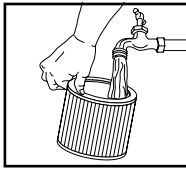

FIGURE 24
34. Or rinse (from the inside of the filter) with water. **FIGURE 24.** Dry completely (approximately 24 hours).